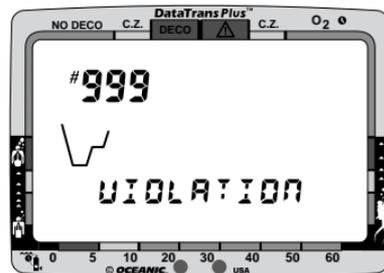

Fig. 82 - History Mode
4. Press the Advance/Left button once again to view the third and final screen (Fig. 82) that shows the Dive Mode icon and the total number of dives during which the DataTrans Plus entered a Violation Mode.